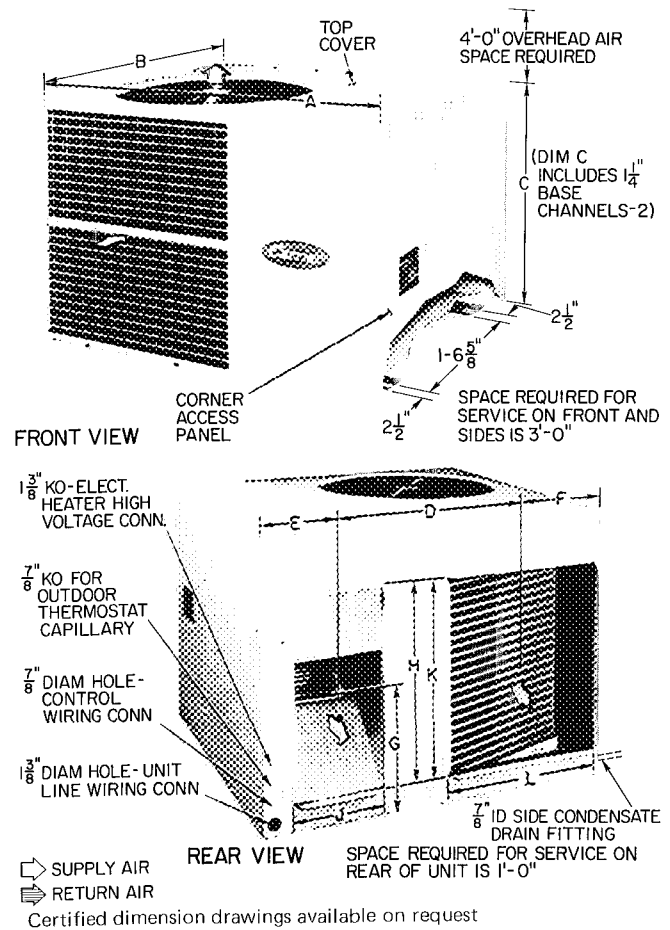
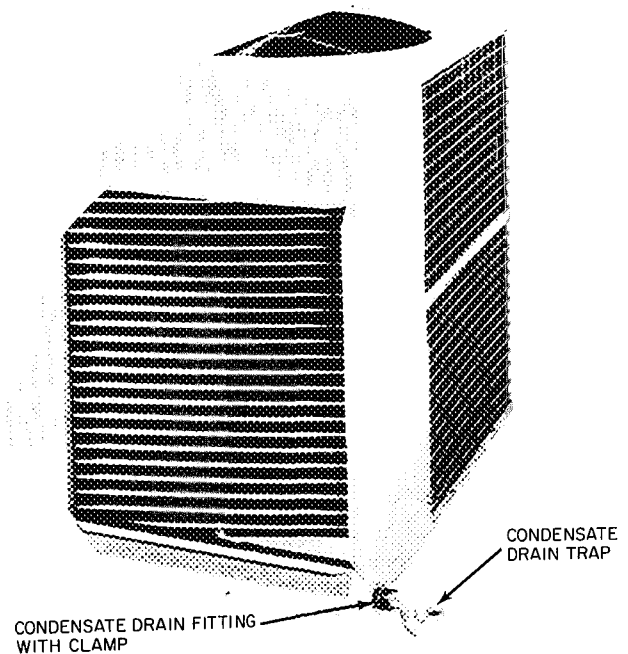
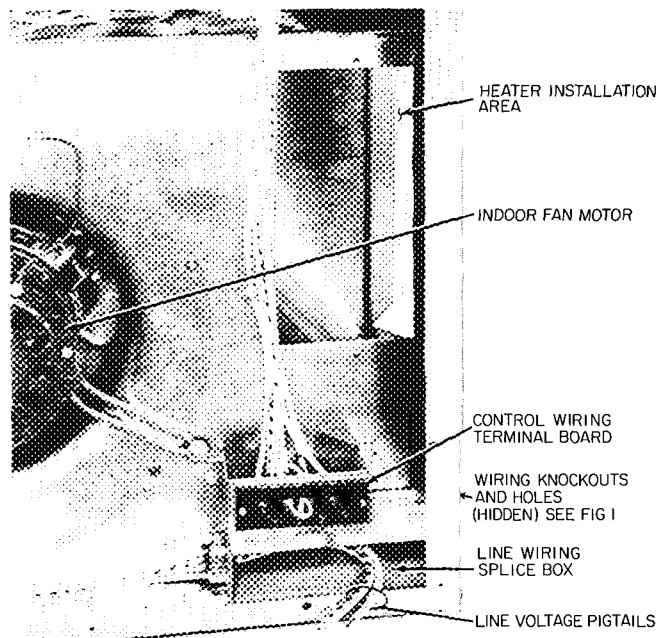

Fig. 1 — Dimensions and Connections
Fig. 4 — Condensate Drain Connection
Fig. 5 – Unit Wiring Terminal Location
- Provide sufficient space for coil air flow clearance, wiring, and servicing unit. (See Fig. 1.)
Table 1 — Installation Data (See Fig. 1.)
Step 5 – Connect Supply and Return Air Ductwork to unit supply and return air duct connections. Refer to Fig. 1 and Table 1 for unit supply and return air connection sizes and locations.
Step 6 — Connect a Drain Line to rubber condensate drain fitting on side of unit (see Fig. 1). Use clamp provided. Install factory-supplied condensate trap (taped to indoor fan housing for shipment) at end of drain line. If a drain line is not used, connect condensate trap to unit drain fitting as shown in Fig. 4.
Step 8 – Bring Line Power Leads Into Unit. Extend leads from fused disconnect thru hole provided (Fig. 1) into line wiring splice box (Fig. 5).
Step 11 – Control Power Wiring (24 v) is brought through 7/8-in. hole provided in unit, Fig. 1. Extend leads to unit control wiring terminal board, Fig. 5. Connect leads to terminal board as directed in Fig. 7.